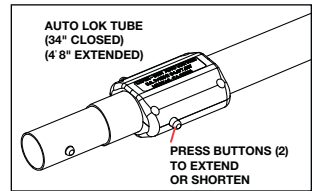

Figure 7
- A. The Auto-Lok Tube allows small adjustments to the length of the tubes quickly and easily. Simply push back on tubes to extend. Press in on the two buttons and pull back on the tubes to shorten. (See figure 7.)